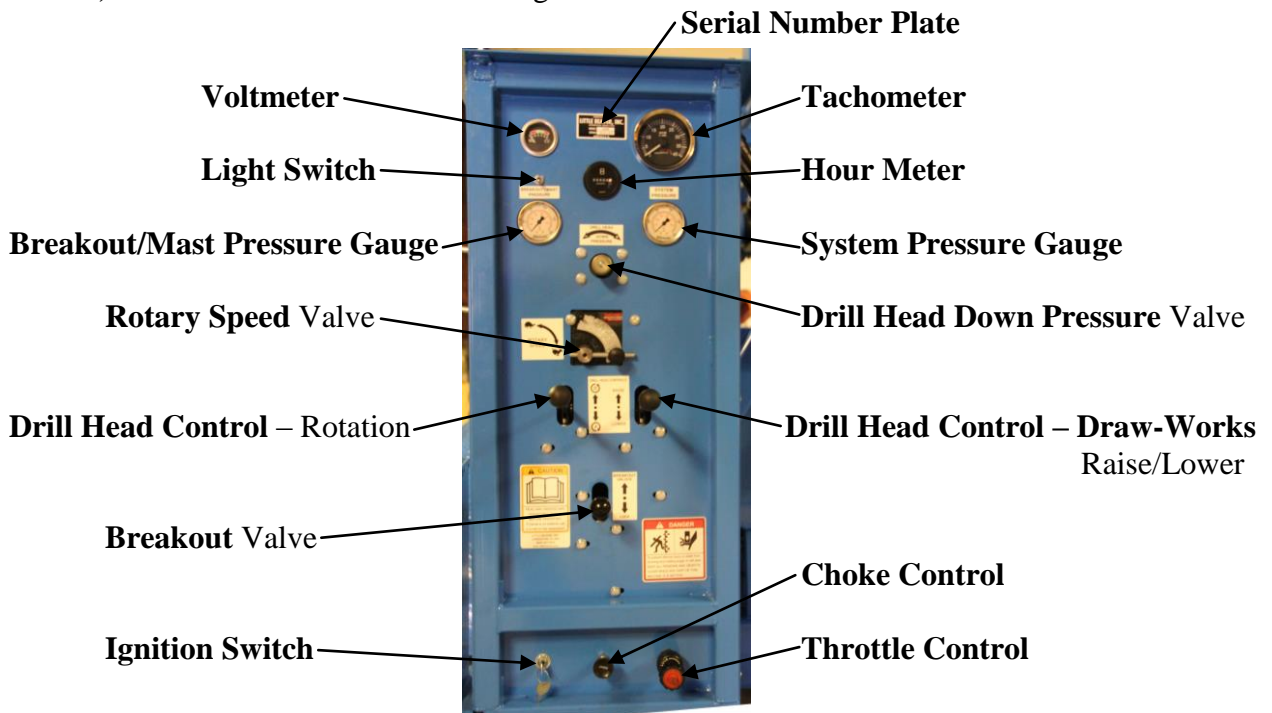

Figure 7
Refer to figure 7 for locations of the following gauges and controls. There are five (5) gauges to monitor while operating the rig.
The engine controls are located on lower section of rear panel. Engine controls include **ignition switch**, **choke control**, and **throttle control**. Refer to figure 7.